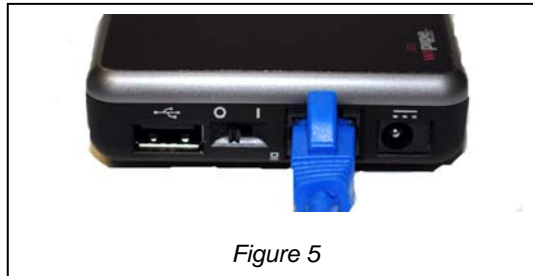

Figure 5
Take the RJ-45 connector of the other end of a category 5e Ethernet cable and insert it into the Ethernet port on the router. (see Figure 5).
- b) With the Gateway connected to the Router (see Figures 5 and 6) type ‘C’ [enter] to show the Gateway’s current network configuration